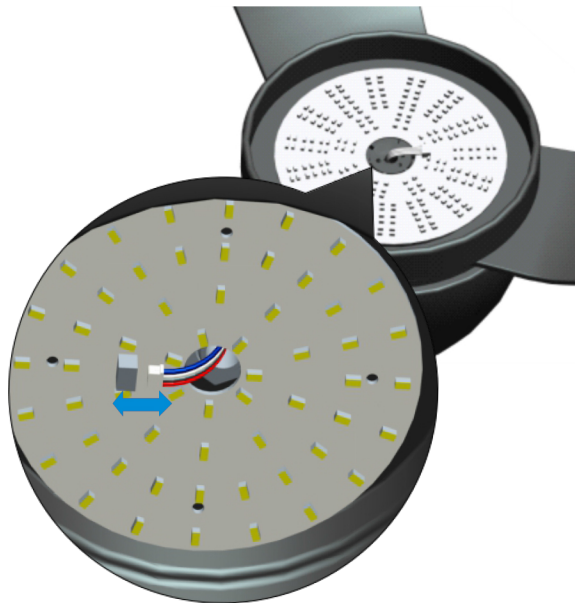

Fig. 3.2
3.2 Allow the wire plug to pass through the light kit. Reinstall the light kit. The light kit will be magnetically attracted to the pan with the help of magnets. Insert the wire plug into the light kit terminal block as shown in Fig. 3.2.